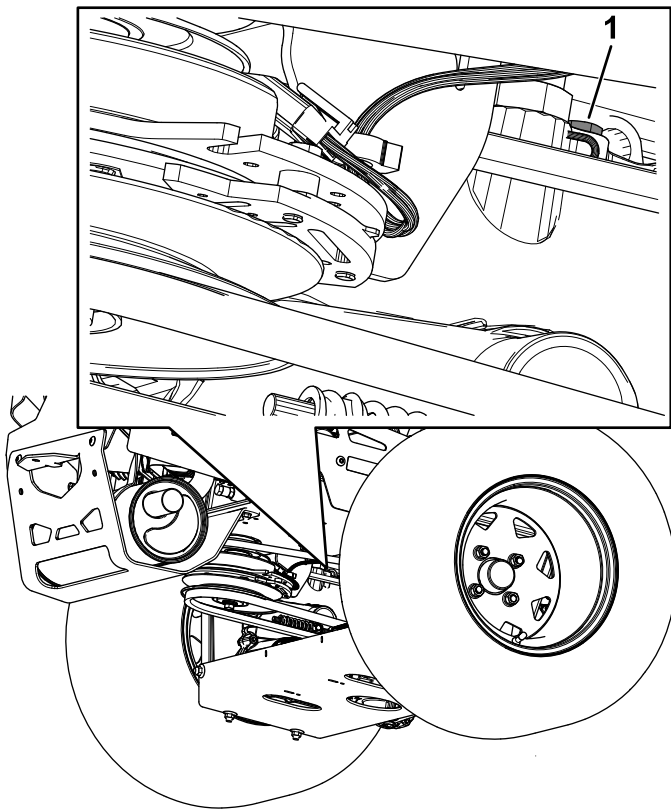

Figure 75
- **For ZT 5400 Hydros**, use a 7/16-inch wrench to access the vent plug from underneath the machine (Figure 75).